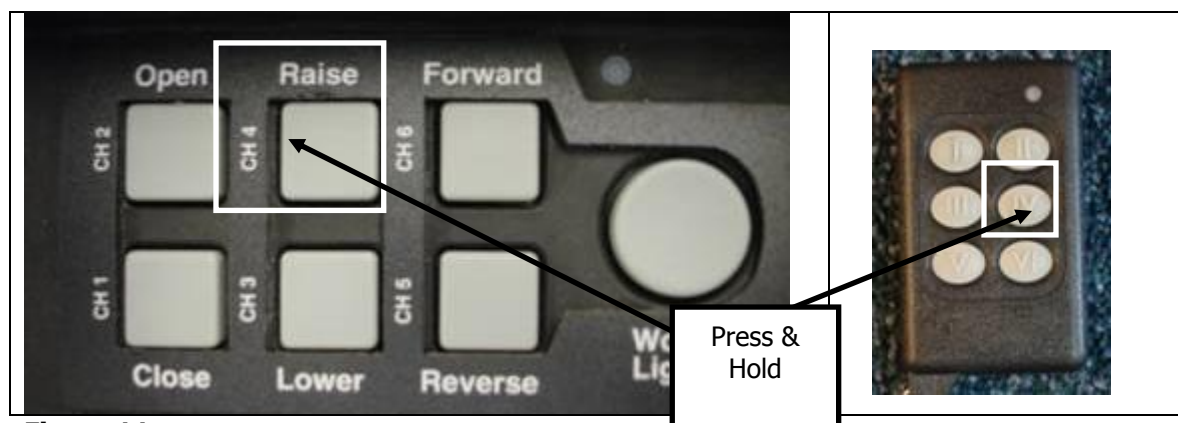

Figure 11
- 2) Raise tower as high as possible to keep tarp from dragging on the load in the container. To raise tower press & hold button 4 on the control box or the key fob (see Fig. 11).